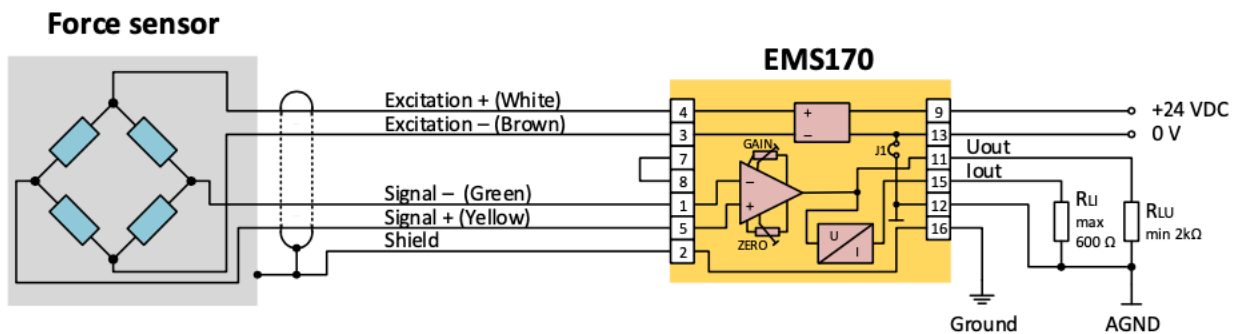

Fig. 5. Wiring diagram, current supply of the sensor
**Current excitation range.** The current through the sensor can be set to 10, 20 or 40 mA. When supplying current, the resistance of the sensor must be taken into account. It must not be greater than given in tab. 2. The connection of the sensor is different from the voltage supply - see fig. 5.